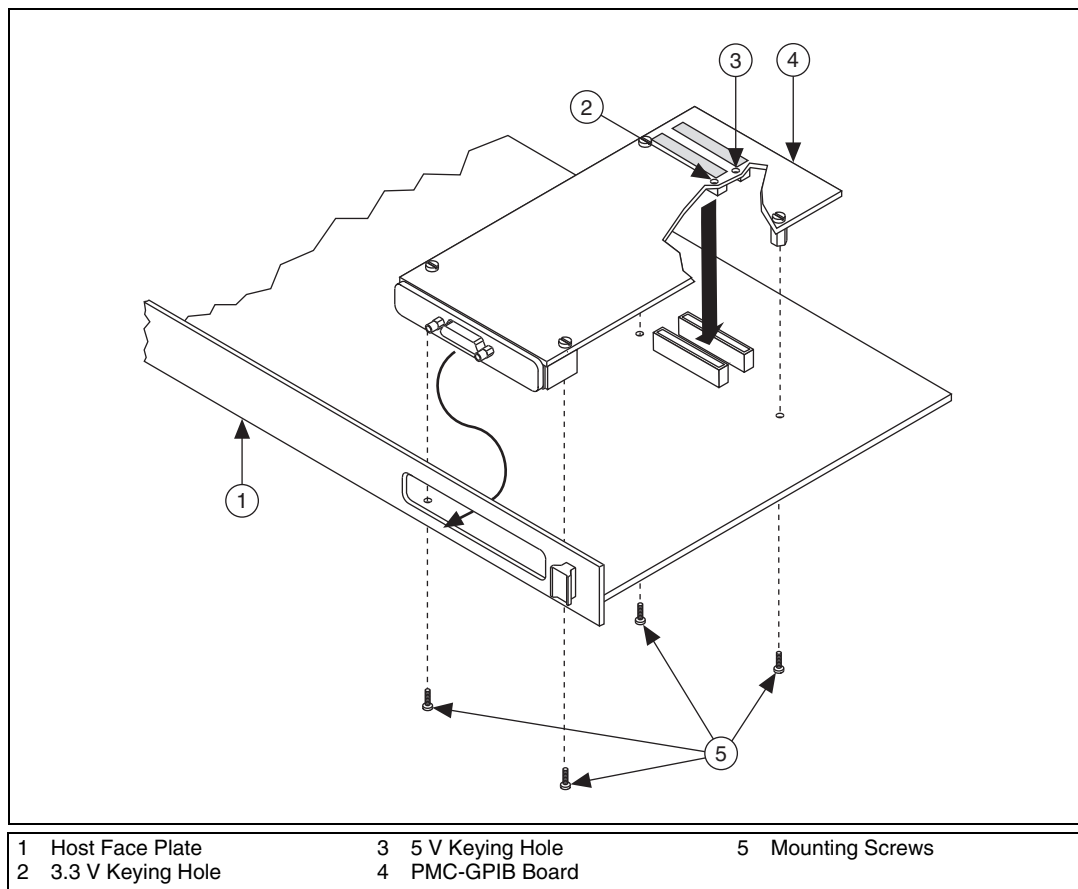

Figure 1-6. Installing the PMC-GPIB
4. Insert the PMC-GPIB into the slot as shown in Figure 1-6. It might be a tight fit, but do not force the board into place.